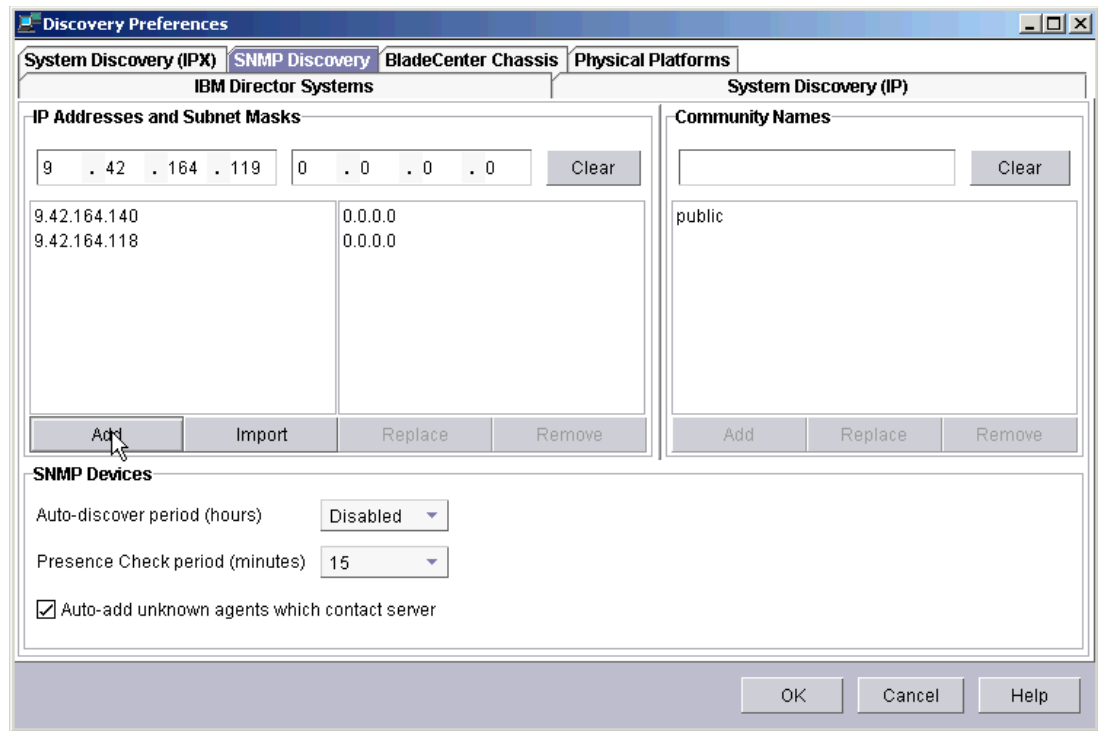

Figure 14-30 Network addresses for SNMP discovery
- The Discovery Preferences window (Figure 14-30) opens. Select the **SNMP Discovery** tab. Change the entry to the IP address of the master console and the switches using a subnet mask of all zeros. Then click **Add** or **Replace**.